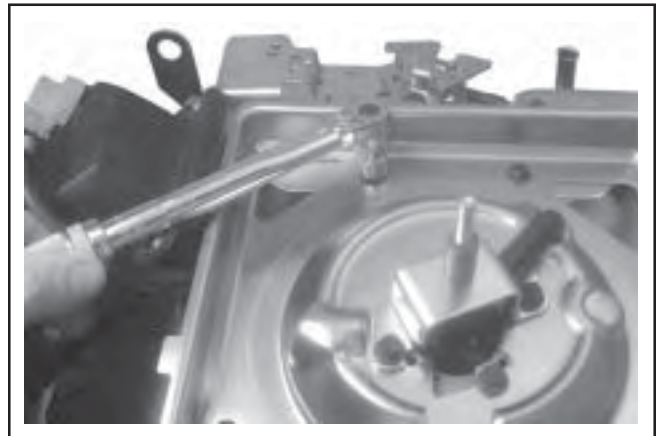

**Figure 11-93. Fuel Inlet Line Detail.**
**NOTE:** Route the fuel line in the contour, as shown in Figure 11-93, to avoid restriction.